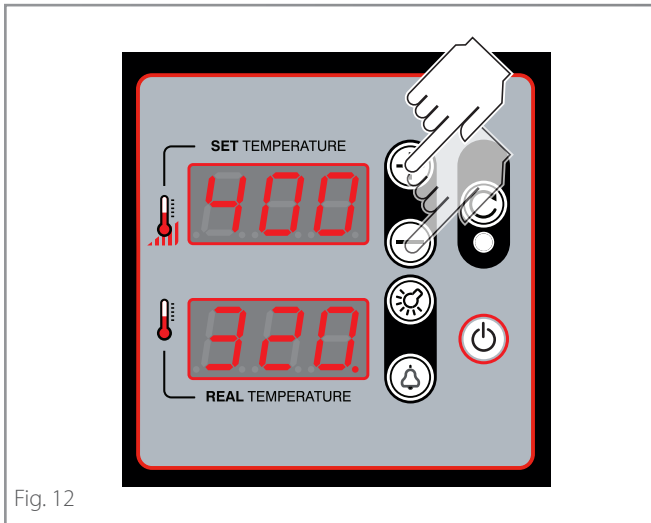
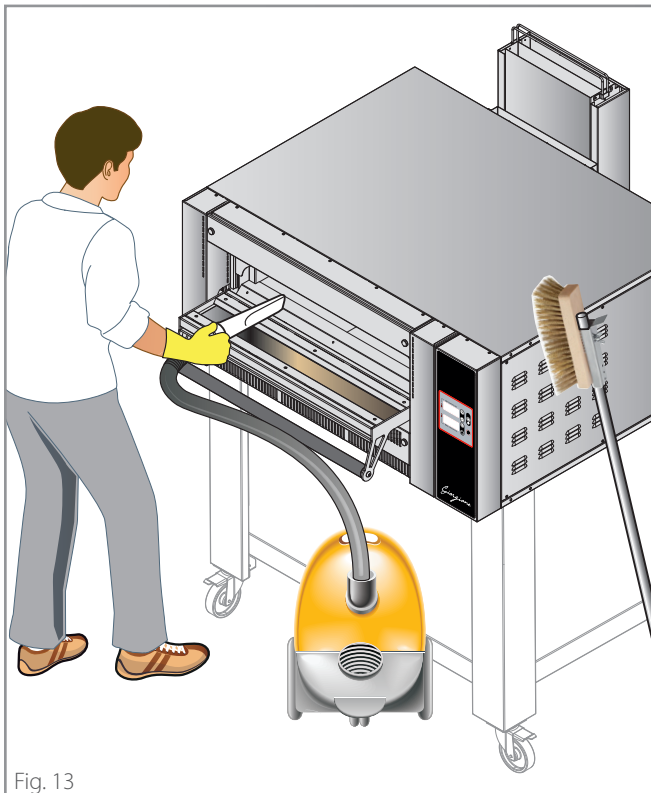

Fig. 12
Fig. 13
- (A) ► Fig. 12** Set the **chamber temperature to 400°C-725°F** using the "+" or "-" keys, until the desired value is displayed (e.g. 400°C - 725°F),
- (B)** switch the lights in the cooking chamber off;
- (C)** when the temperature is reached, switch the oven off with the **ON/OFF** key and let it cool down with the door closed;
- (E) ► Fig. 13** With a cold oven, clean the chamber from the crystallized food residues using a natural fibre brush and then vacuum with an ash extraction bin